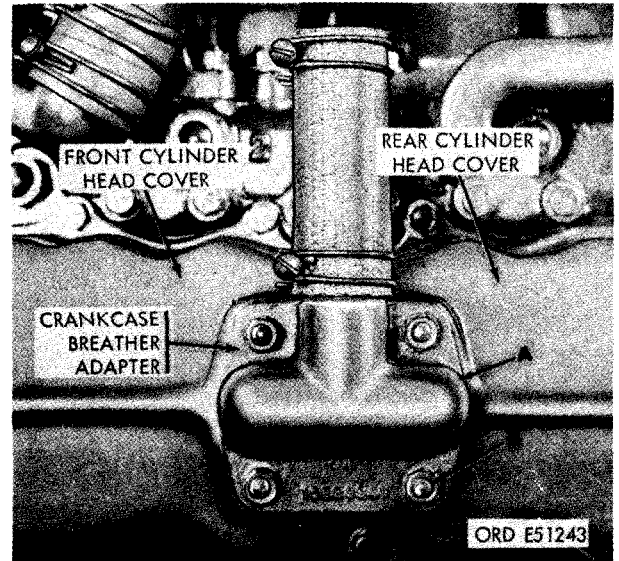

FIGURE 504. INSTALLING CRANKCASE BREATHER ADAPTER.
(2) Figure 504. (A) Position crankcase breather adapter, with attached hose, on front and rear cylinder head covers as shown. (B) Secure adapter to cylinder head covers using four 5/16- inch lock washers and 5/16- inch plain nuts.